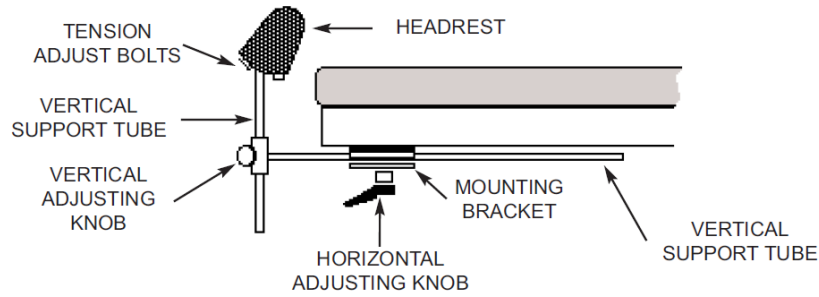

Figure 13
1	Loosen the horizontal adjusting knob (See Figure 13)
2	Insert the horizontal support tube into the mounting bracket as shown (See Figure 13) and secure the headrest in place by rotating the horizontal adjustment knob in a clock-wise direction.
3	Vertical adjustment of the headrest can be achieved by loosening the vertical adjusting knob and lifting the headrest to the desired height (See Figure 13)
4	The angle of the headrest can be adjusted by rotating it at the point it is joined to the vertical support tube. The tension of the swivel mechanism can be adjusted by tightening or loosening the three (3) tension adjusting bolts (See Figure 13). A 4mm Allen Wrench is required.